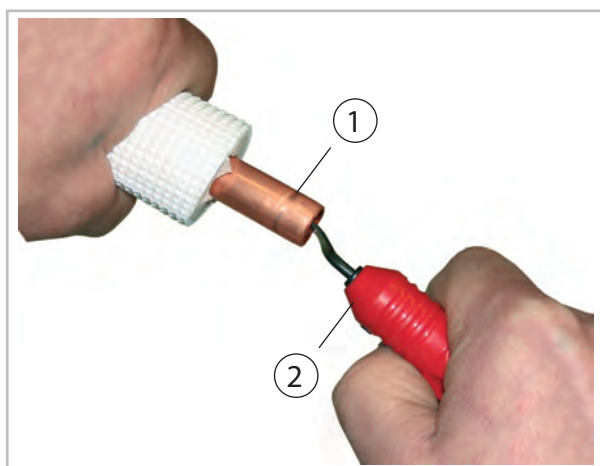
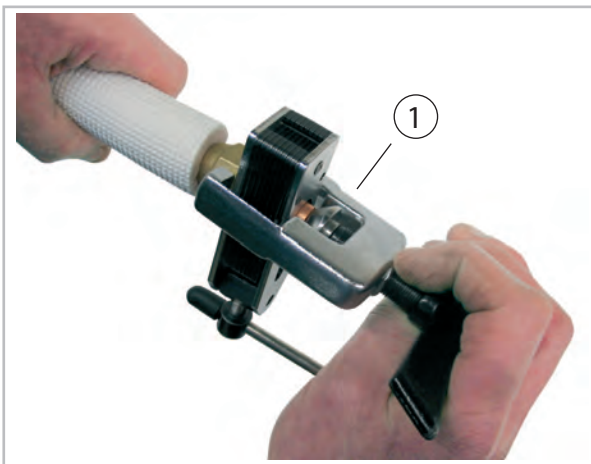

Fig. 28: Deburring the refrigerant piping
Fig. 29: Flanging the refrigerant piping
8. ➤ Prepare the laid refrigerant pipings as shown below (Fig. 28 and Fig. 29).